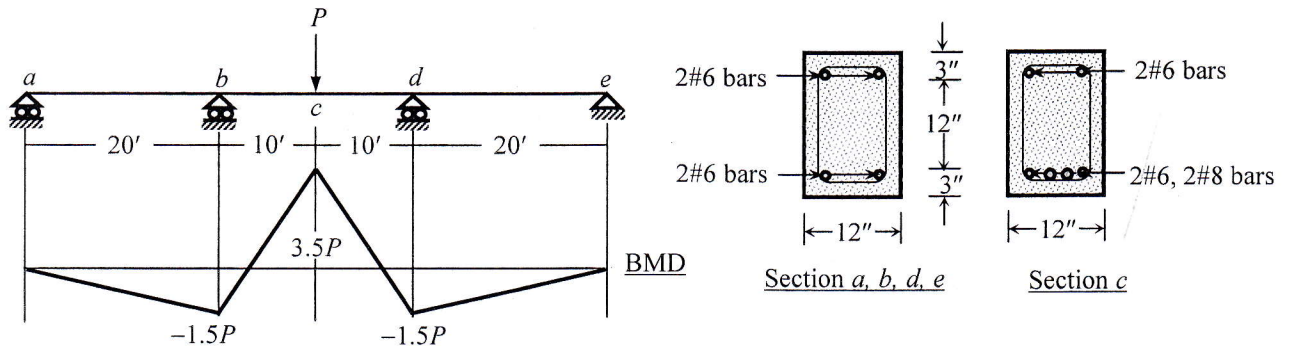

Fig. 10
12. Use bending moment diagram to calculate the distributed load w (k/ft) needed to develop plastic hinge mechanism in the RC beam $ABCDE$ loaded as shown in Fig. 10 [Given: $f'_c = 4$ ksi, $f_y = 60$ ksi].
12. Use the Bending Moment Diagram (BMD) to calculate the concentrated force P needed to develop plastic hinge mechanism in the RC beam $abcde$ loaded as shown in Fig. 10